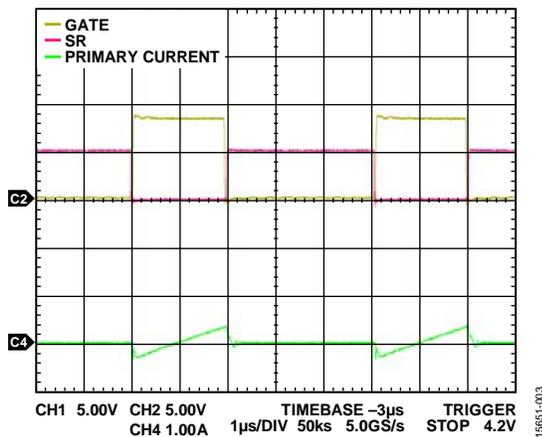

Figure 3. GATE and SR Example at 48 Vdc Input and No Load
The gate signals, GATE and SR, are generated by isolated gate drivers within ADP1071-2. The logic high level is V_{REG1} for GATE, and V_{REG2} for SR, and both logic low levels are 0. An example of GATE and SR waveforms is shown in Figure 3. All the signals in Figure 3 represent the signals at the output pins of the integrated circuit (IC).